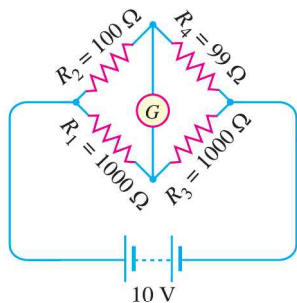

Fig. 1.52
- Using Thevenin's theorem, find the current through the galvanometer in the Wheatstone bridge shown in Fig. 1.52. [38.6 μA]